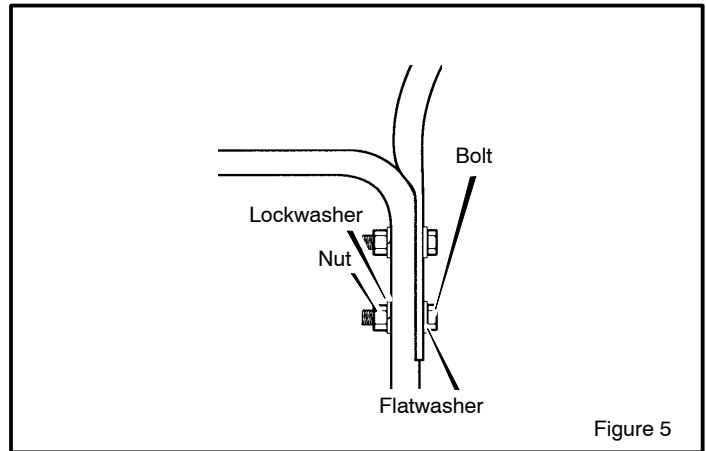

Figure 5
3. Remove the fasteners from the lower holes of the lower handle See Figure 5.